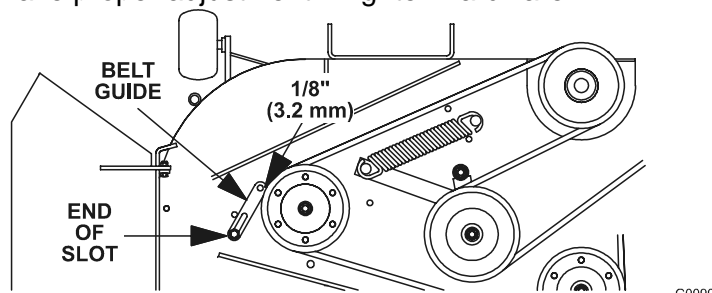

FIGURE 9
- c) Note belt guide bolted to deck near the shield support stud and right-hand pulley. Guide should be 1/8" (3.2 mm) away from the belt, with bolt-end of guide near end of slot (See Figure 9).